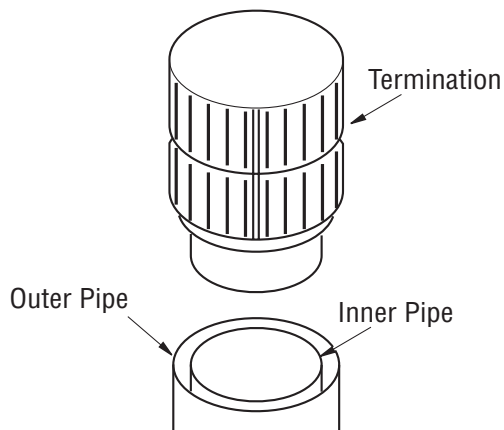
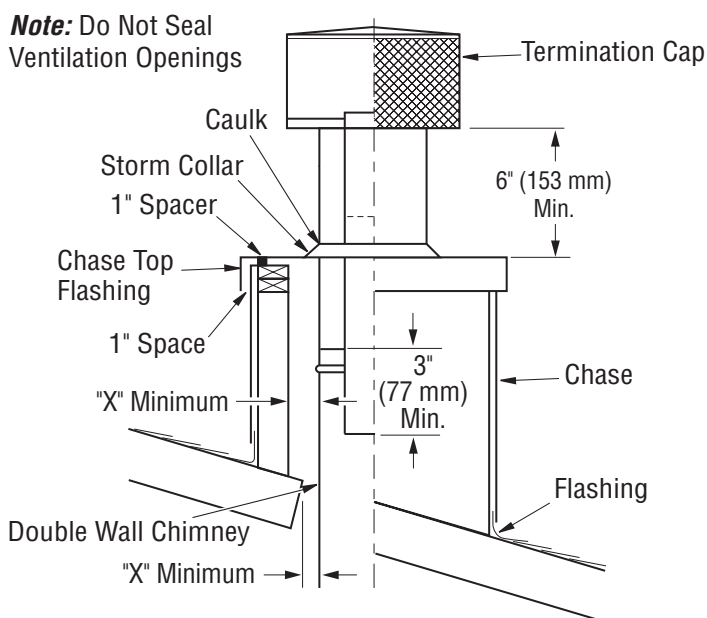

Figure 30 - Installing Termination Cap
Figure 31 - Chase Installation
5. Place termination cap over opening. Slip stainless steel inner pipe of termination into inner stainless steel chimney section (see Figure 30). Place galvanized steel over chimney outlet (see Figure 31).
6. Attach storm collar where chimney pierces opening in flashing. Caulk where storm collar touches outer chimney pipe (see Figure 31).